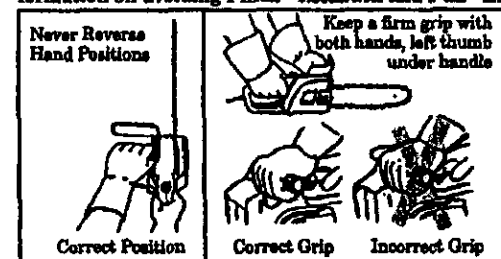

Figure 3
1. Keep a good, firm grip on the saw with both hands when the motor is running and don't let go. Figure 3. A firm grip can neutralize kickback and help you maintain control of the saw. Keep the fingers of your left hand encircling and your left thumb under the front handlebar. Keep your right hand completely around the rear handle whether your are right handed or left handed. Keep your left arm straight with the elbow locked.
2. Position your left hand on the front handlebar so it is in a straight line with your right hand on the rear handle when making bucking cuts. Figure 3. Never reverse right and left hand positions for any type of cutting.
4. Stand slightly to the left side of the saw to keep your body from being in a direct line with the cutting chain. Figure 3.